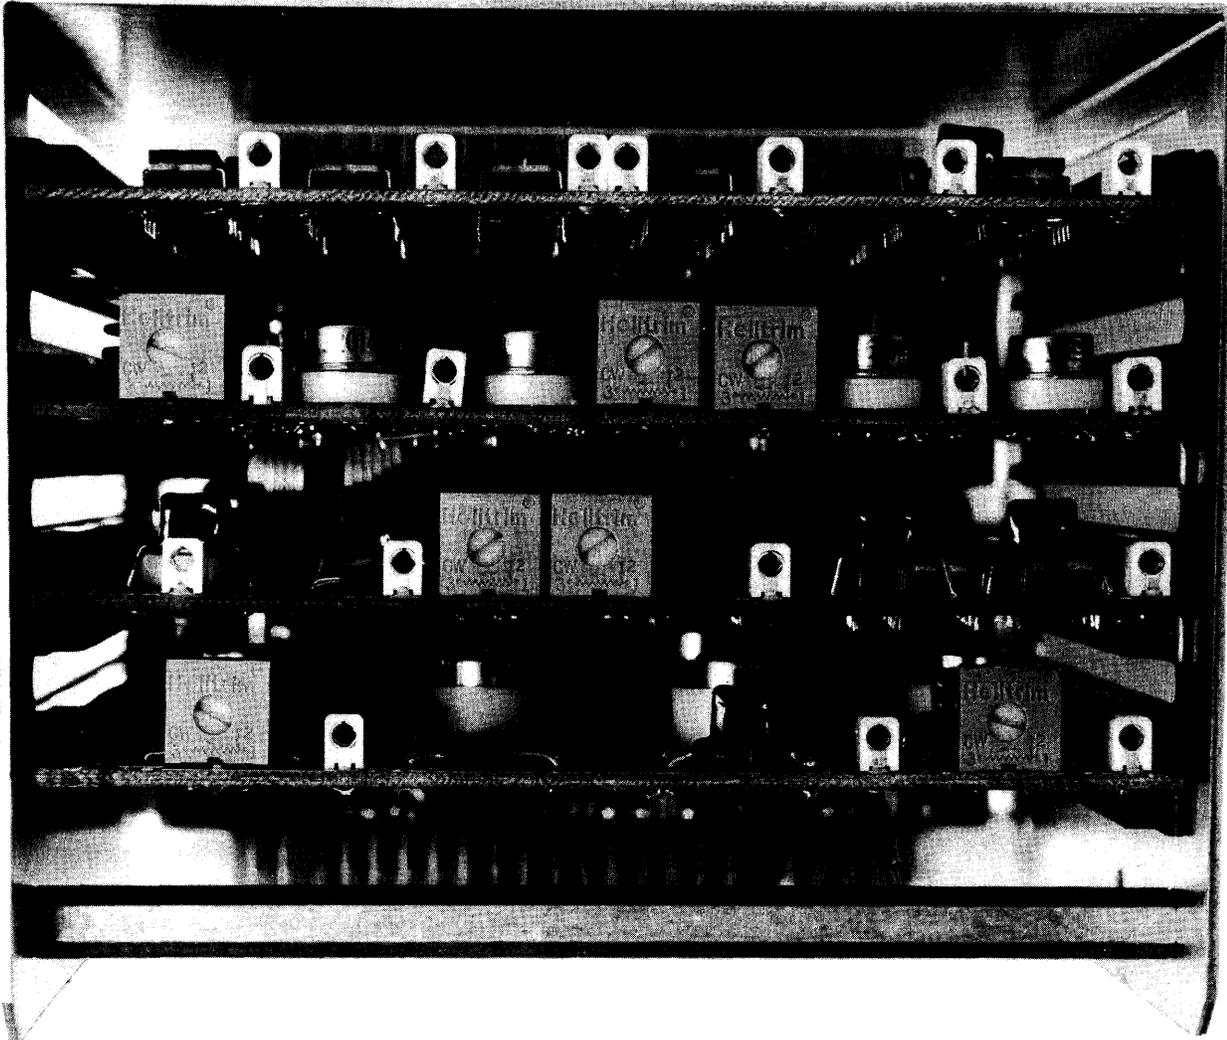

Figure 4-1. Cassette Unit Electronics Package
- a. Separate the electronics module (figure 4-1) from the cassette unit to gain access to the brake mechanism and spindle shafts. Make certain that the cassette unit is resting on a solid surface.